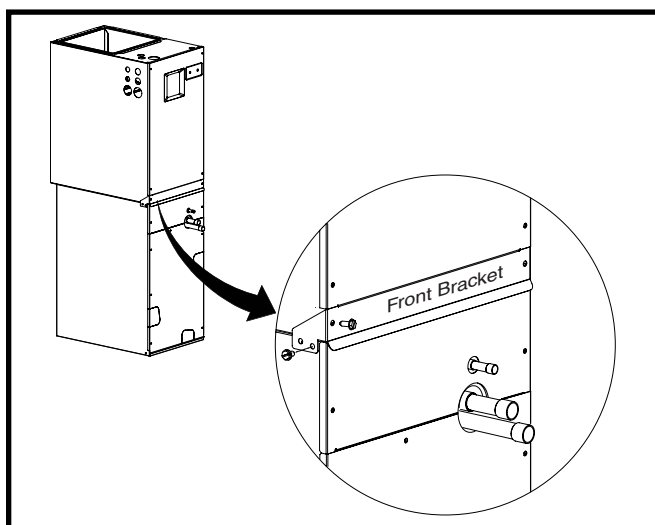

Figure 3. Front Bracket Installation - (Upflow Only)
3. Remove the lower front bracket (Figure 3 \(page 7\)) from the modular unit. Retain the screws for later use.
4. Attach the front joining bracket to the front of the modular unit. Align the screw holes in the bracket with the holes from the lower front bracket and the top panel of the coil case. See Figure 3.
1. Remove the lower front bracket (Figure 3) from the modular unit. Retain the screws for later use.